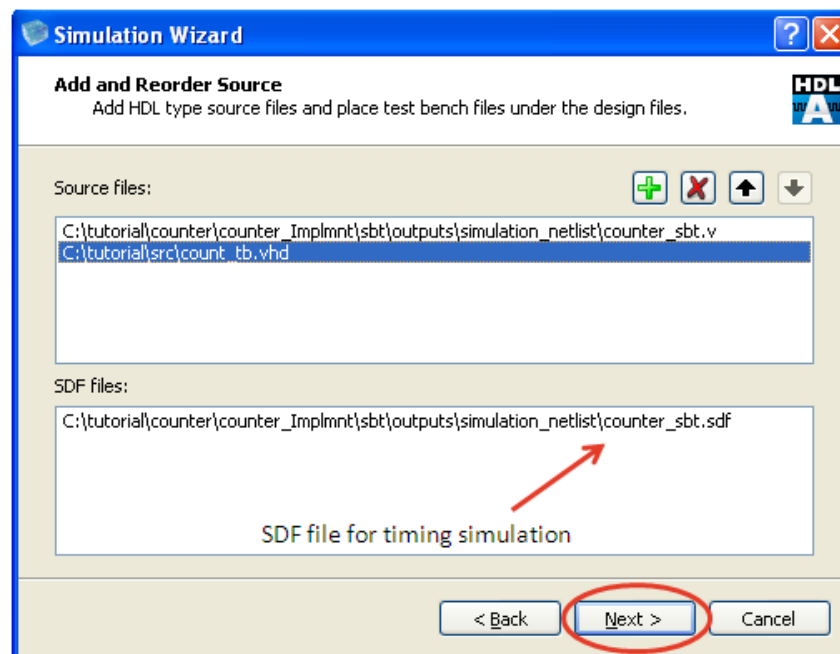

Figure 10-20 : Add Test bench File.
- The simulation wizard automatically adds the post routed netlist "**counter_sbt.v**" in "Source files" panel and the verilog delay format file "**counter_sbt.sdf**" under "SDF files" panel as shown in Figure 10-20. Click on "+" icon to add the "**count_tb.vhd**" test bench to the "Source files" panel. Click on "Next".